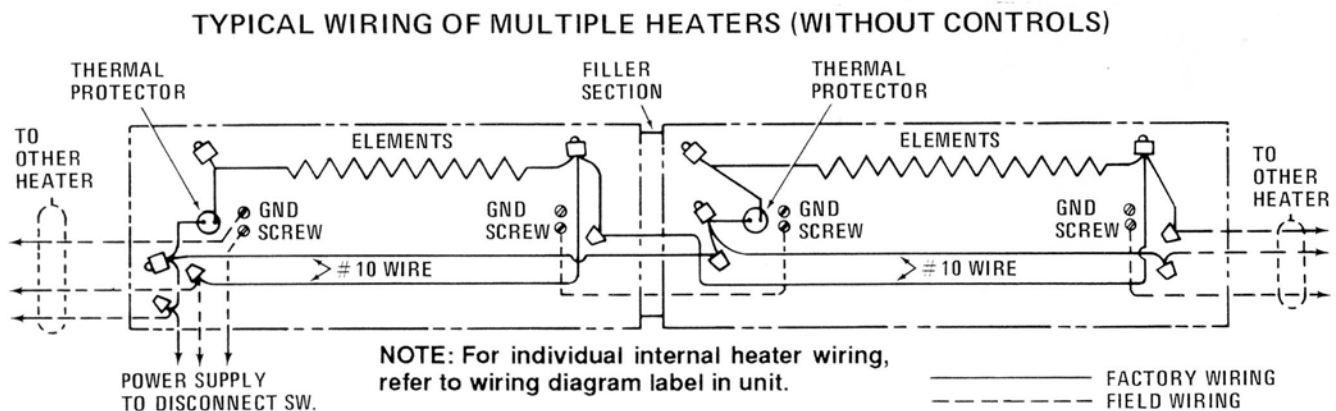

Figure 7 - Wiring Diagram
- Following the wiring diagram secured to the heater, make the electrical connections. Refer to Figure 7 to connect the other heaters in parallel. Grounding of the other heaters is accomplished by connecting a jumper wire (not supplied) between the two adjacent heaters.